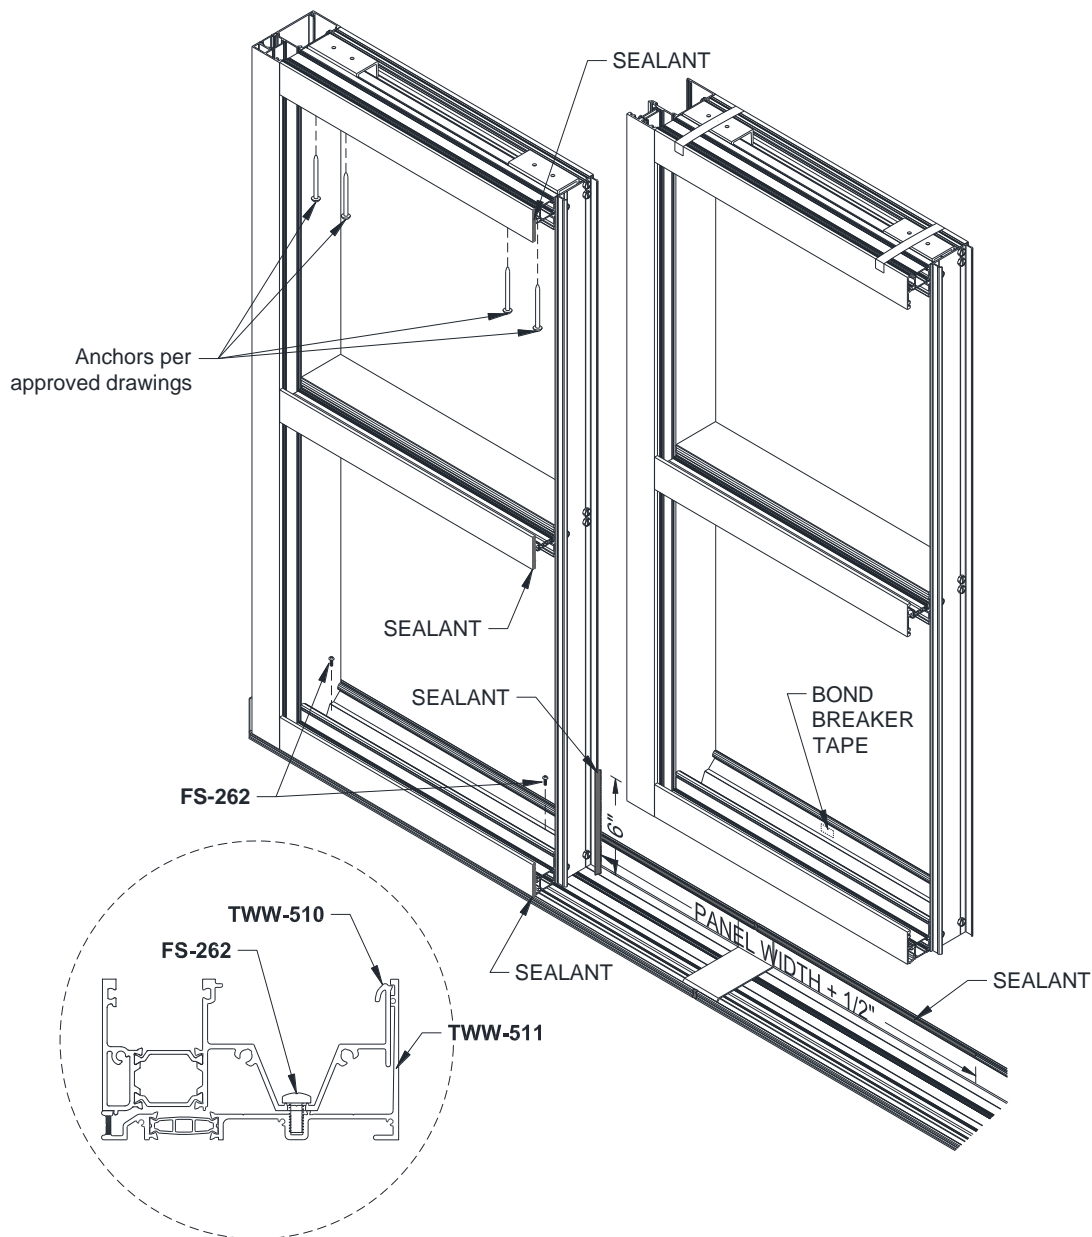

Figure 71: Panel Installation, Additional Panels
- 19.7 Remove any debris from the Sill and secure the panel to the Sill Receptor with **FS-262** fasteners, *Figure 71*. Do not cap seal the **FS-262** fasteners.
- 19.8 Match drill holes at Head anchor points into substrate. Shim and anchor as required. It is not necessary to cap seal fasteners. Reference, *Figure 71*.
- 19.9.3 Reference *Figure 71* for all sealant locations.
- 19.9.5 Reference *Figure 71* for all sealant locations.
- 19.11 Just prior to placing the next panel, apply Sealant the full width of the panel bay plus 1/2" in the top of the Sill Receptor. Reference *Figure 71* for location.
- 19.15 Remove any debris from the Sill and secure the panel to the Sill Receptor with **FS-262** fasteners, *Figure 71*. Do not cap seal fasteners.
- 19.16 Match drill holes at Head anchor points into substrate. Shim and anchor as required. It is not necessary to cap seal fasteners. Reference, *Figure 71*.